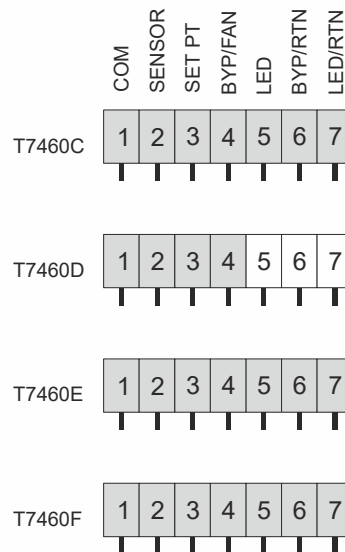

Fig. 8. Wiring diagram for T7460C,D,E,F Wall Modules
3. Verify jumper setting with Fig. 6 and wall module wiring with Fig. 7 and Fig. 8.